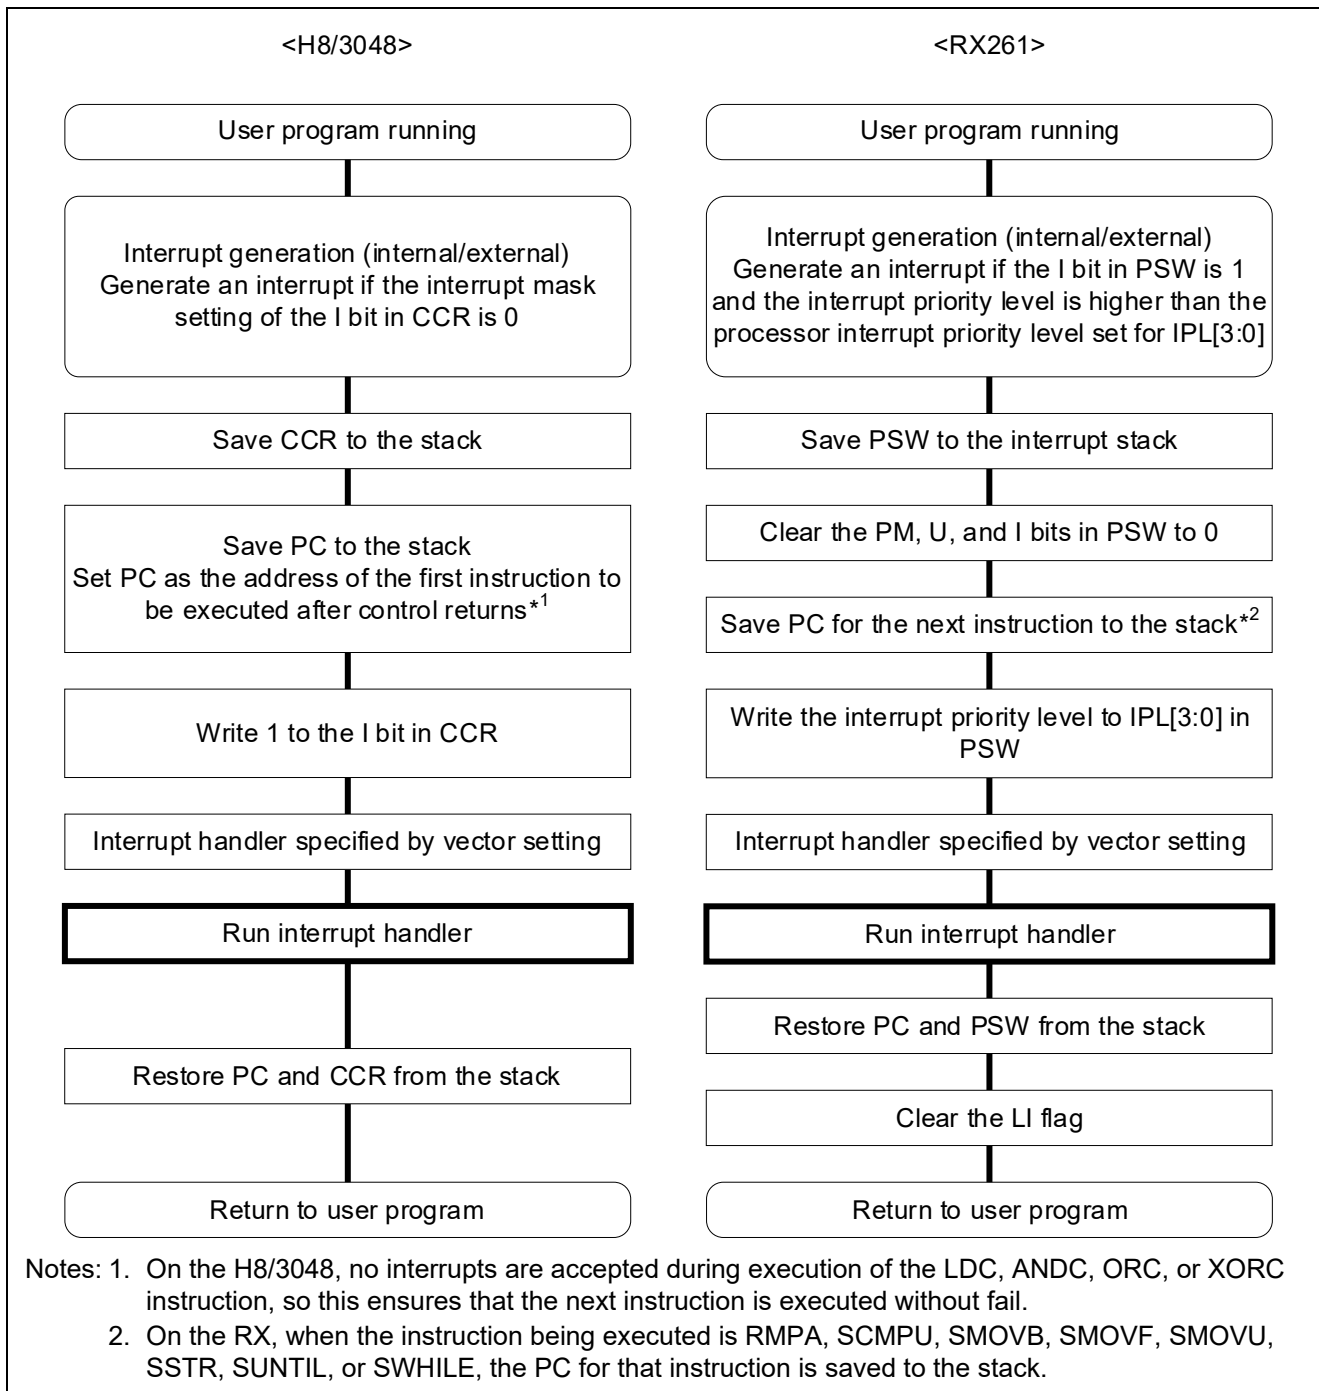

Figure 1.10 Processing Sequence of Interrupt Exception Handling (Internal/External)
2. Figure 1.10 shows interrupt exception handling.
Figure 1.10 shows the processing sequence of interrupt exception handling (internal/external) on the H8/3048 and RX261 devices.